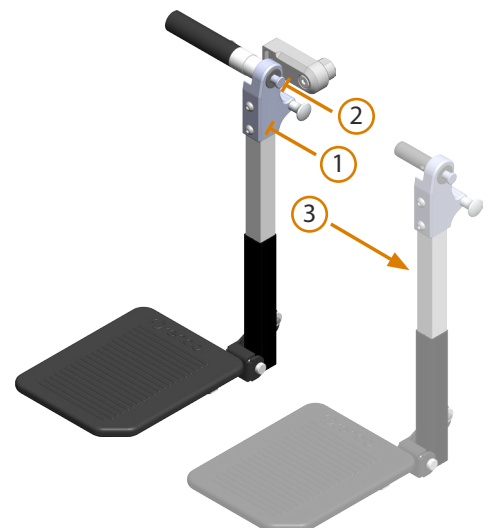

Figure 31. Removal of leg rest
- Grip around the leg rest joint (1 in Figure 31).
- Push in the release button (2).
- Pull the leg rest away from the leg rest mount (3).